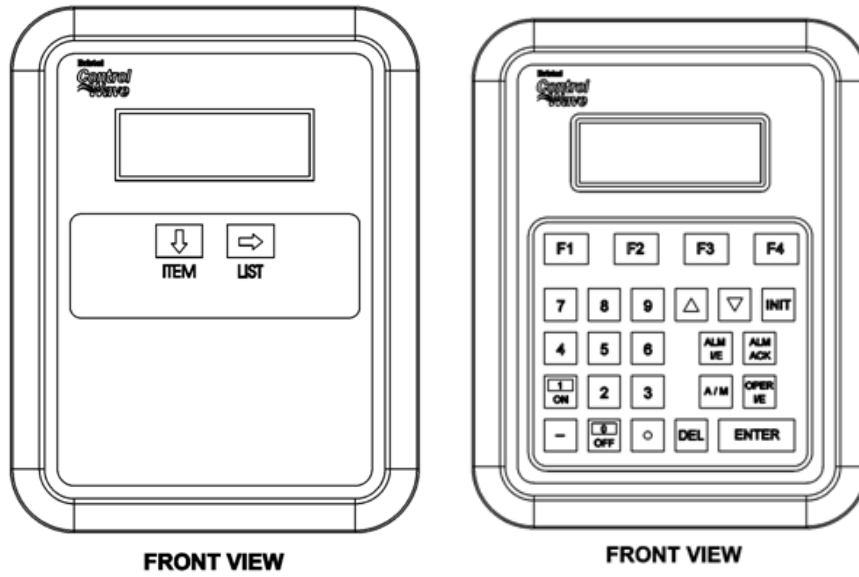

Figure 2-19. Optional 2-Button and 25-Button Keypads
- A 2-button keypad (shown in the left of *Figure 2-19*)
- A 25-button keypad (shown in the right *Figure 2-19*)